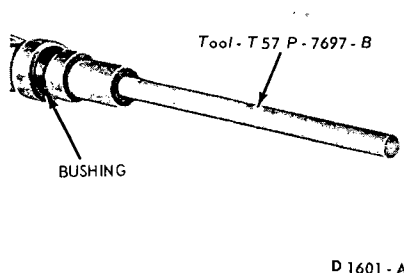

FIG. 28—Installing Extension Housing Bushing
3. When installing a new bushing use the special tool shown in Fig. 28.